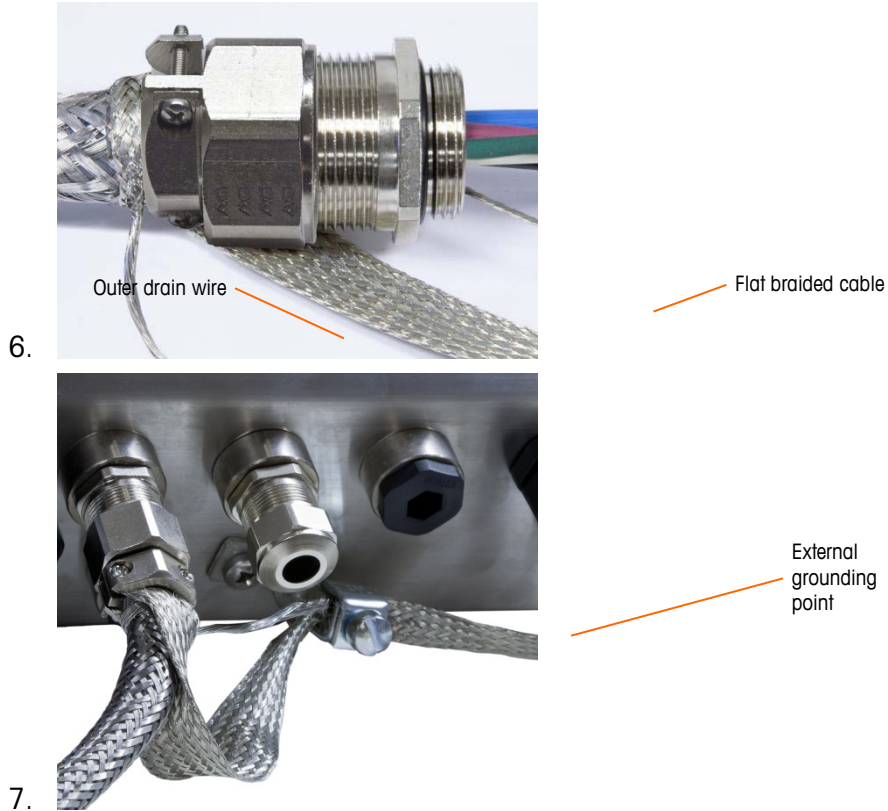

Figure A-49: PDX Home Run Outer Braid Termination, Harsh Enclosure
- b. Pull the outer braid forward to cover the brass sleeve and wrap one end of a flat braided ground cable over it before securing everything down using the metal clamp (Figure A-49). Route the home run cable's outer drain wire along with the flat braided cable through a ground lug attached to the rear of the harsh enclosure. The other end of the flat braided cable is terminated at the ground rod.